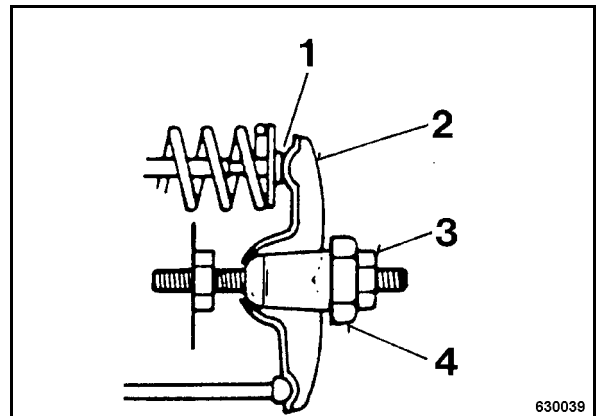

Fig. 52
- Hold hexagon nut (4) (Fig. 52) on the rocker lever and loosen counter nut (3).
- Adjust hexagon nut (4) on the rocker arm so that the feeler gauge fits between rocker arm and valve shaft (1) with noticeable resistance after retightening counter nut (3).